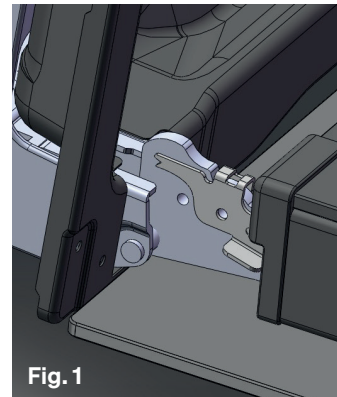

Fig. 1
- Open the door to the full extent (fig. 1)